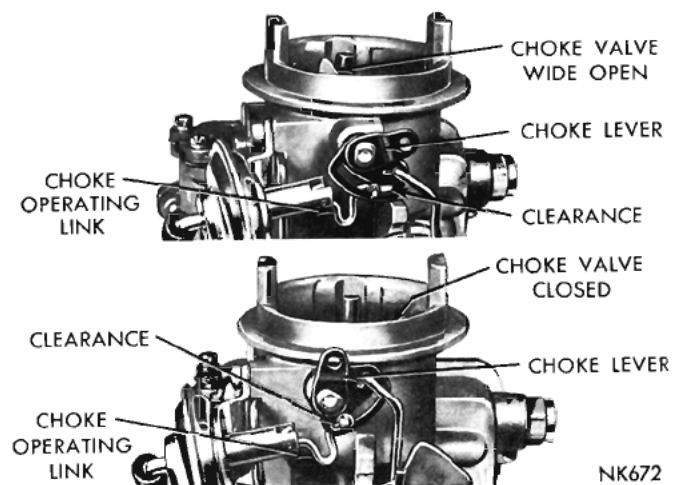

Fig. 14—Choke Operating Link Clearances
(8) With no vacuum applied to the diaphragm, some clearance should exist between the choke operating link and the choke lever slot, in both the open and closed choke valve positions, as shown in (Fig. 14). **This clearance is necessary to allow the choke valve to close for starting as well as fully open, after the engine reaches the normal operating temperature.**